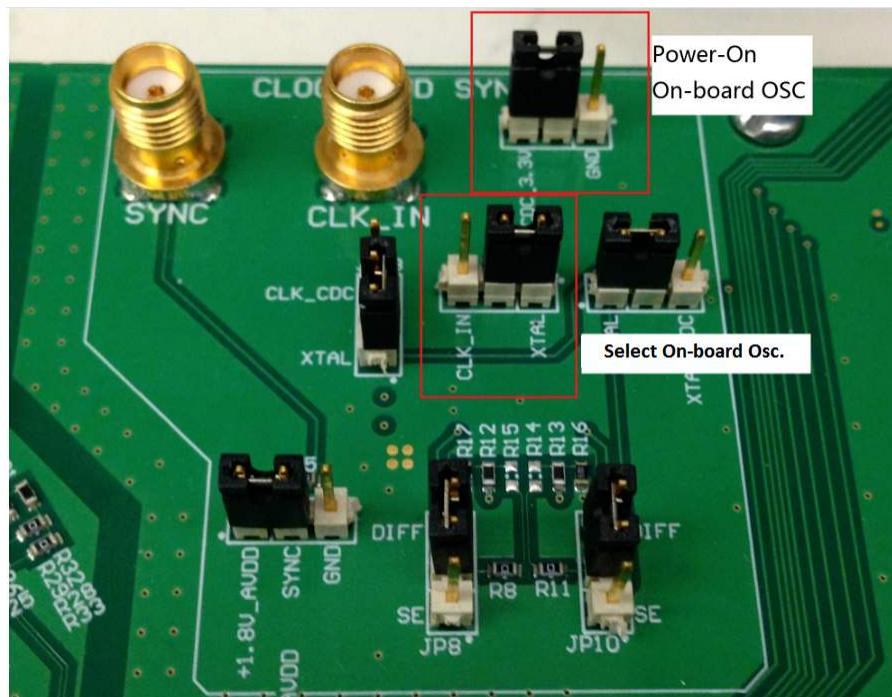
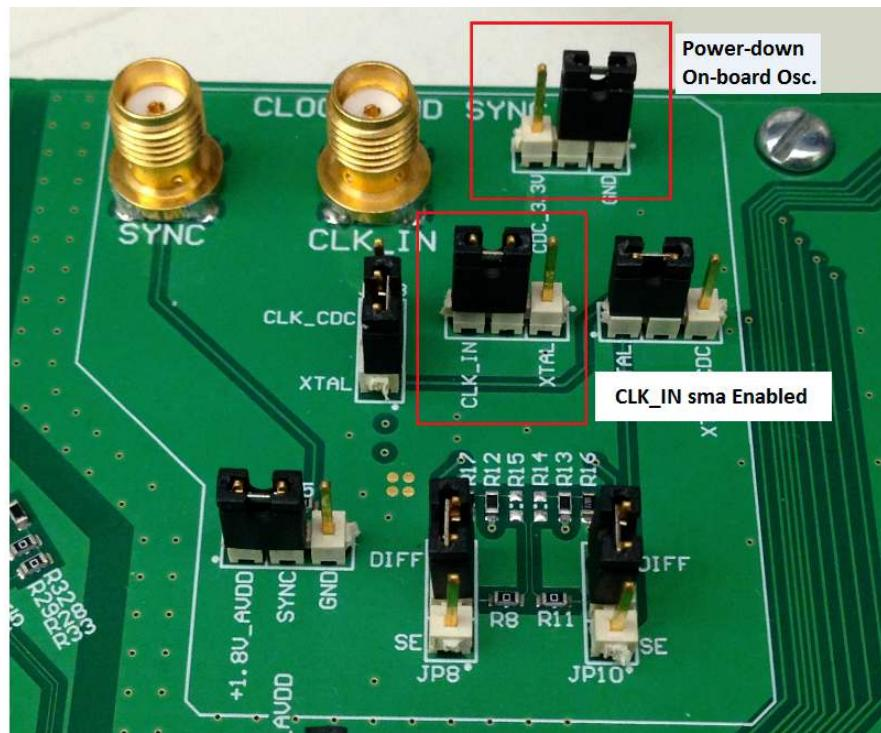

Figure 38. Jumper JP11 and JP9 Positions for Enabled XTAL (default)
Figure 39. Jumper JP11 and JP9 Positions for Disabled XTAL
1. The RAMP test described in Section 4.2 was performed using an 80-MHz on-board crystal oscillator (XTAL) for the sampling clock. This clock cannot be used to measure performance of the device as it is not phase locked to the input signal. The XTAL should be disabled by moving jumper **JP11** from the position labeled **CDC_3.3V** to the position labeled **GND** in the silkscreen. Also, **JP9** must change position from **XTAL** to **CLK_IN** in the silkscreen to enable the SMA J5 **CLK_IN**. Figure 38 and Figure 39 show the jumper positions before and after this change, respectively.